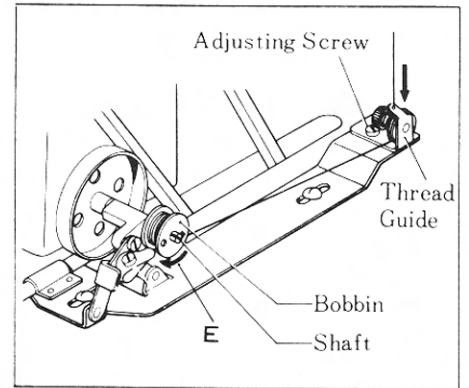

Figure 7
6. Winding Lower Thread (Figure 7)